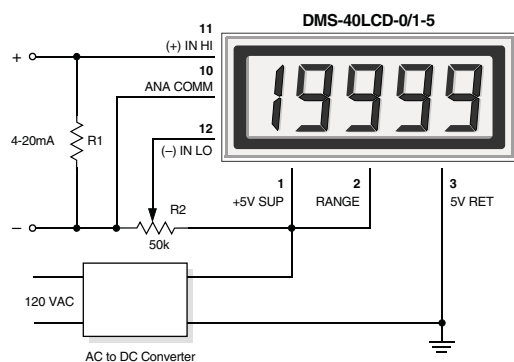

**Figure 7. 4-to-20mA Current Loop Operation (5V-Powered Models)**
**5. Process Control (4-to-20mA) Measurements:** In many common process-control applications, a 4-to-20mA current loop is used to transmit information. Because DMS-40LCD meters have such high input impedance, a simple shunt resistor across the meter's input can be used to convert the loop current to a voltage. See Figure 7. The value of the shunt resistor is a function of the scaling requirements of the particular application and can be calculated using the following equation:
To calibrate the circuit of Figure 7, perform the following: